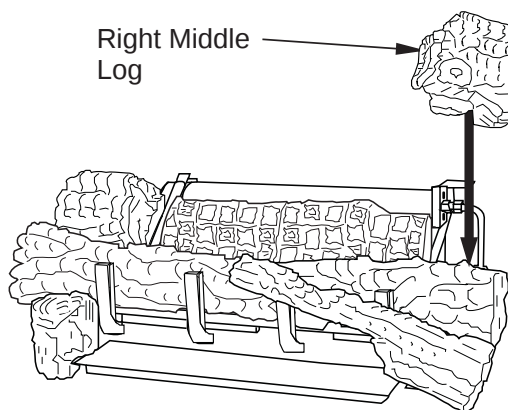

Figure 29 - Installing Right Middle Log
- The right middle log (18" D-067, 24" & 30" D-041) has a groove on the bottom to sit on the chassis and has to sit on the tab on the back of the right front. The right middle log should have a recess area that fits around the ramp log as shown in **Figure 29**.